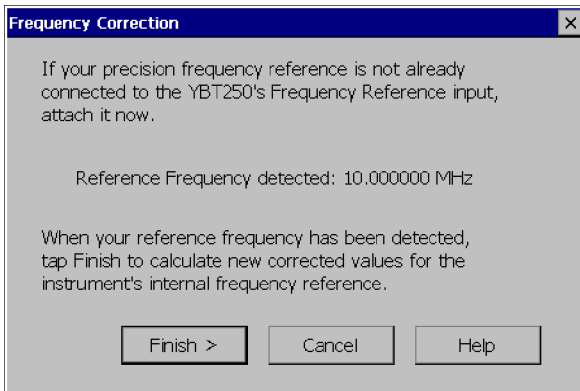

Figure 2-10: Ready to calculate new correction values
4. To calculate new frequency correction values, tap **Run New Correction**. This displays the dialog shown in Figure 2-10.